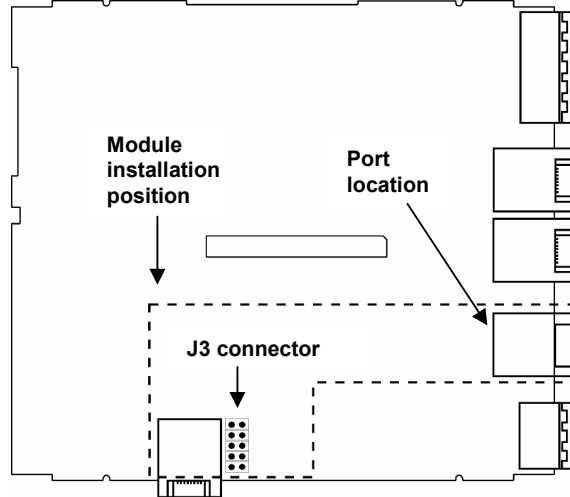

Figure 2. Controller, Main PCB Board
5. Locate the J3 connector shown in Figure 2.